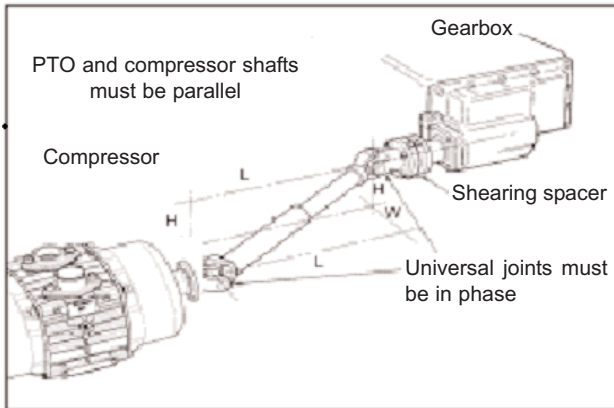

Figure 5
2.3 DRIVE SHAFT - See Figure 5